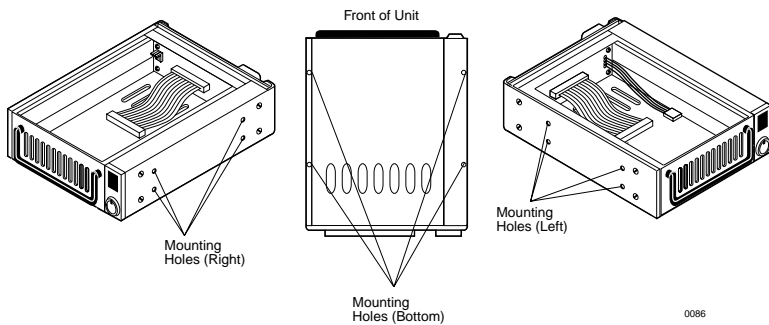

Figure 9: Receiving Frame Mounting Holes
4. With the drive carrier locked in place inside the receiving frame, install the DE100 into the 5.25" drive opening in the computer or expansion chassis. Use the appropriate guides to position the DE100, and fasten it into place with the four (4) #6-32 Phillips screws provided. Figure 9 illustrates the location of the mounting holes. Mounting holes are provided on each side and the bottom of the receiving frame to accommodate a variety of mounting configurations. Use the mounting holes which best suit the computer or expansion chassis configuration.